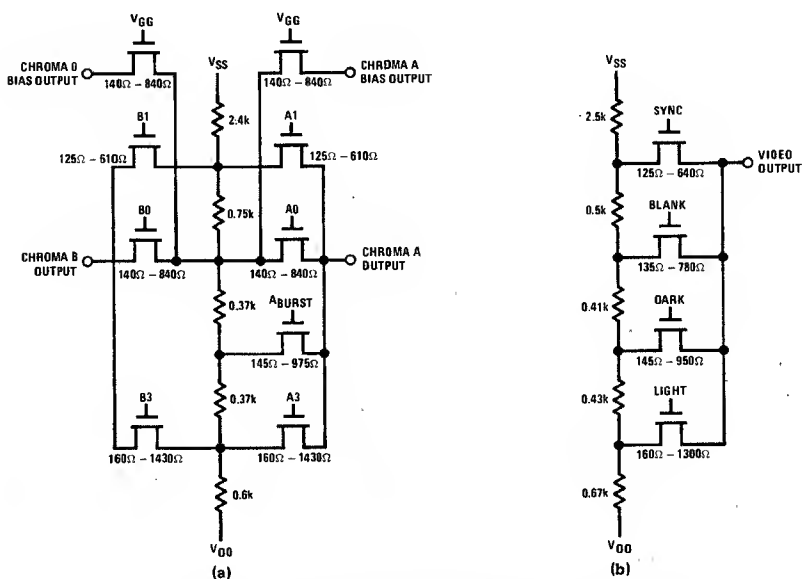

FIGURE 9. Chroma and Video Output Networks (See Notes on Page 4-41)
**Note 1:** Chroma A, Chroma B and the Chroma bias output levels are specified for dc current = 0. Typical dc loading conditions are  $30\mu\text{A}$  or less. The resistor network in Figure 9(a) can be used to determine the shift and interaction in outputs for dc load conditions.
**Note 2:** Video output levels are specified for dc current = 0. Any other loading conditions will influence the output levels and the resistor network in Figure 9(b) can be used to calculate output levels. Typical dc currents are  $30\mu\text{A}$  or less.